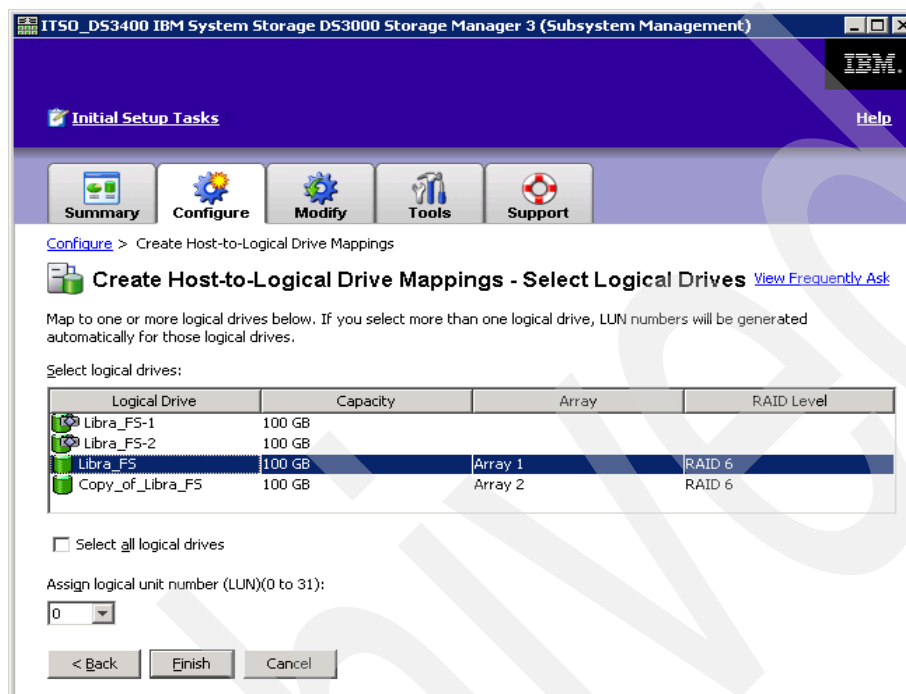

Figure 9-28 Storage Partitioning - Select Logical Drives
3. In Figure 9-28, decide which logical drive to assign to the selected host or host group.